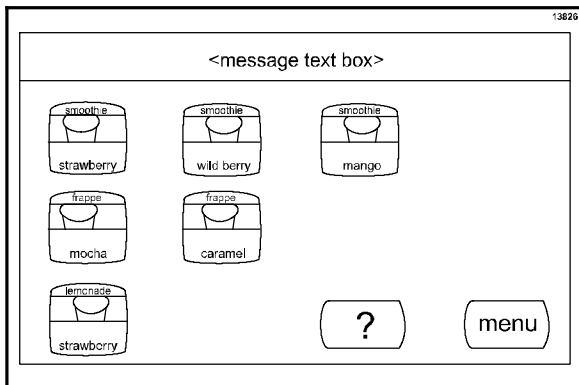

Figure 128
- Press the MENU key to display the Main Menu. (See Figure 128.)